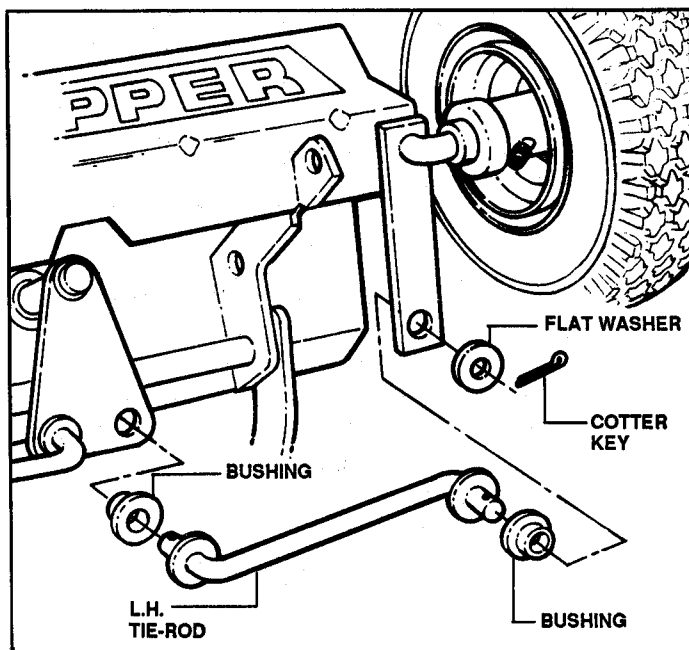

FIGURE 5.5
- B. Remove cotter pins and flat washers from each end of tie rod. See Figure 5.5.